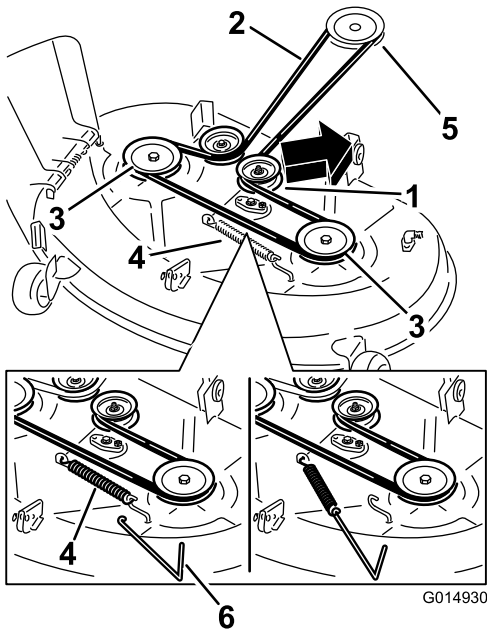

Figure 63
5. Using a spring-removal tool (Toro Part No. 92-5771), remove the idler spring from the deck hook to remove tension on the idler pulley, and roll the belt off the pulleys (Figure 63).
7. Using a spring-removal tool, install the idler spring over the deck hook, and place tension on the idler pulley and mower belt (Figure 63).
6. Route the new belt around the engine pulley and mower pulleys (Figure 63).